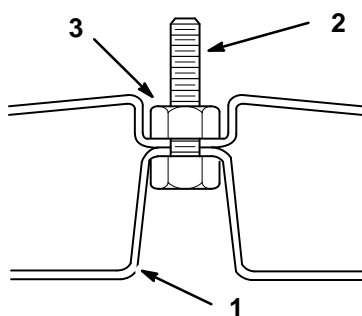

Figure 4
1. Remove backing paper and apply decal to left side of mower (Fig. 4). Smooth from center to edges to remove air bubbles.
1. Place (4) 5/16"–18 x 1 1/4" bolts into the deep recessed holes in the left and right baffles. Secure the bolts with (4) 5/16" locknuts in the shallow recesses. Refer to Figures 4 and 5 for correct assembly and hole usage.